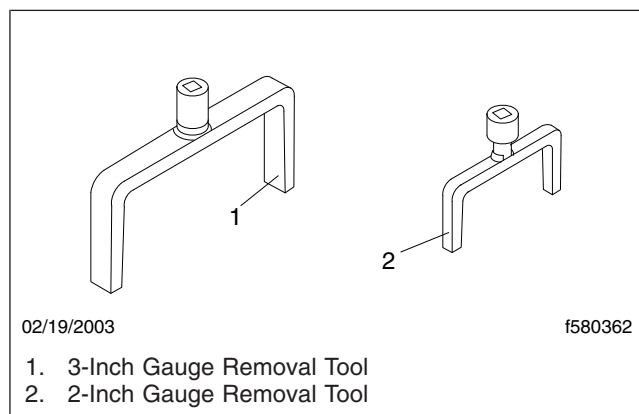

Fig. 5, Gauge Removal Tools
11. Place a gauge removal tool over the retaining ring. See Fig. 5.